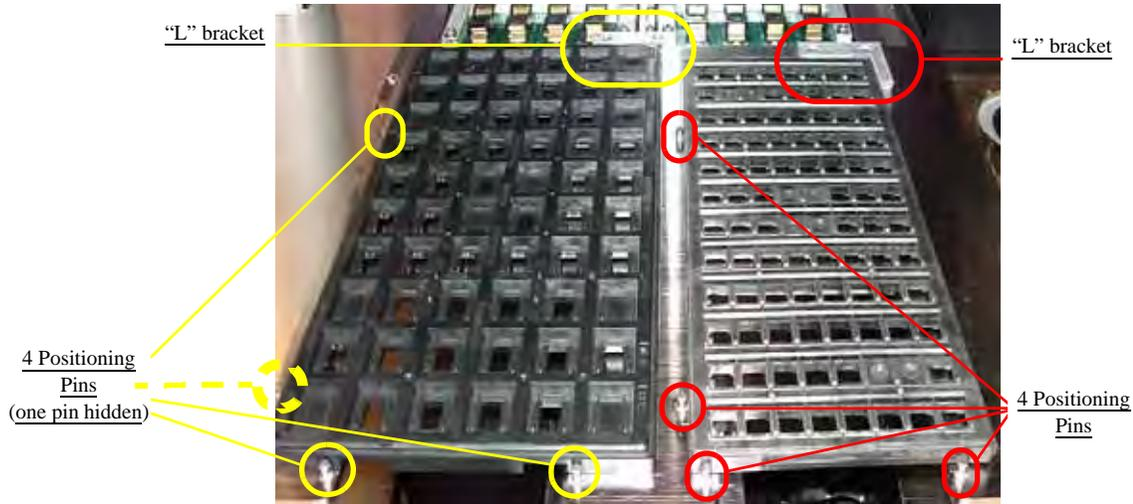

Figure 2-5—Two Static Trays seated with optic sensors (hidden) blocked
- 2c) Place the “L” shaped magnet in the upper right corner of each tray so that the each tray seats against the 4 positioning pins. When properly seated, each tray blocks an optic sensor. See *Figure 2-5*.